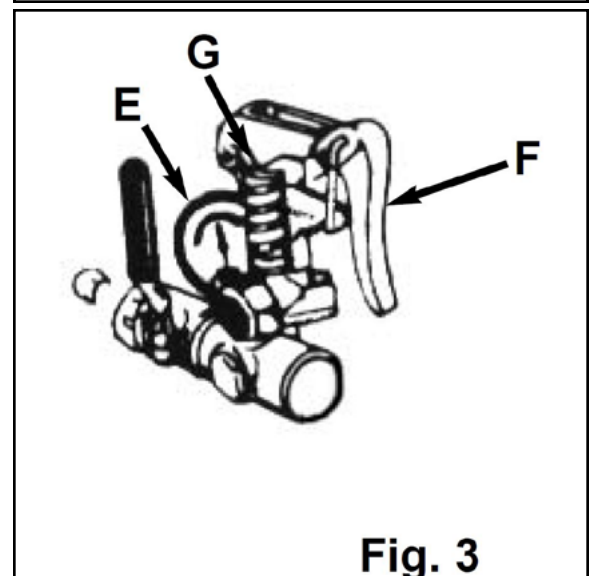

Fig. 3
1. After you have uncrated all components received, remove cotter key and washer (A). Slide out the pin in order to install the tow handle (B).
2. Next place the sprayer (C) on the tow cart (D). Use the fasteners provided to fasten the sprayer to the frame. If you are using a 9910 sprayer, place the sprayer to the front of the frame away from the barrel. If you are using a 6500, 7560, or a 7560XL sprayer, this process will not have to be done.
3. Take the reducer (E) and the 5' X 3/4" hose (F) that is supplied and fasten together. Connect that end to the larger hole on the barrel. Connect opposite end of suction hose to the 3/4" QDC connector located on the sprayer.
4. Take the 5' X 1/2" bypass hose (G) that is supplied and fasten to the smaller hole on the barrel. Connect opposite end of the bypass hose to the 1/2" QDC connector located directly below the flow control valve.
5. Locate the spray wand hose (H). This hose will be the longer of the three. Connect one end to the spray wand (I) and the opposite end to the 1/2" QDC connector located on the 90 degree elbow below the flow control valve on the sprayer.
**NOTE:** Your sprayer and components may differ from the one shown in Fig. 3. This will depend on what model you order.
3. Check the charge pressure (E) on the pulsation dampener before starting the pump. The pressure is checked with a standard automotive air gauge. The pressure should be at approximately 20% of the maximum operating pressure. (refer to Fig. 3)
4. On the pump you can adjust the pressure by clamping the relief valve adjustment lever (F) down. With the bale hook in the number one position the pressure is about 100 psi; number two is about 250 psi; number three is about 450 psi; number four is about 550 psi. These pressures can be adjusted by using the fine adjustment knob (G) located on top of the relief valve spring. The fine adjustment knob can be rotated when the relief valve lever is in the up position. (refer to Fig. 3)